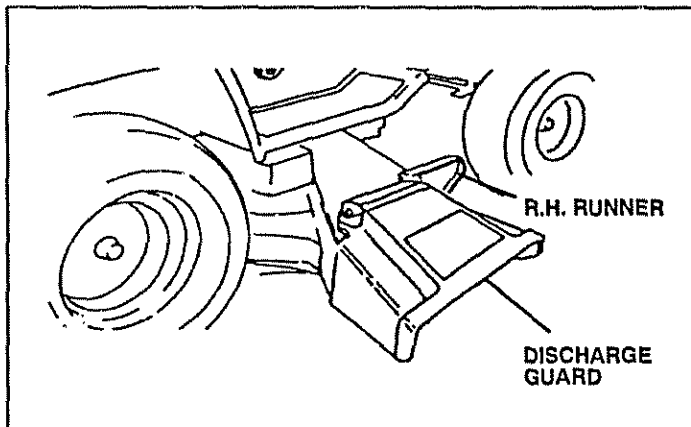

FIG. 15
- Use the runner on the right hand side of mower as a guide. The blade cuts approximately an inch outside the runner (See FIG. 15).